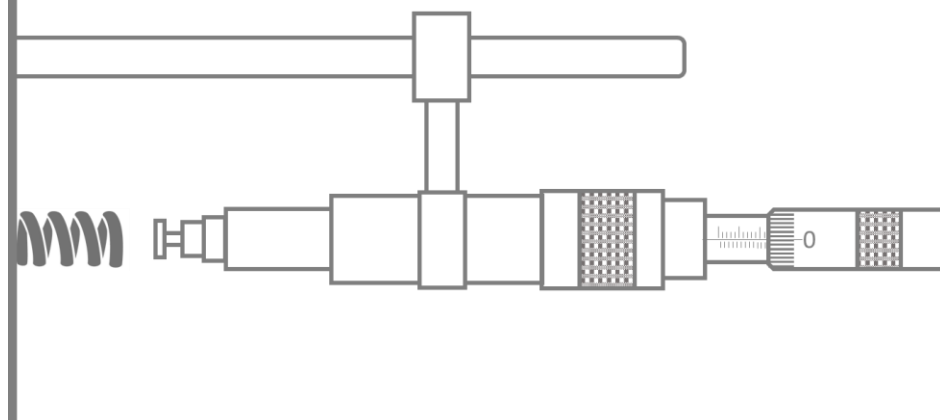

Figure 47 S.L.D Setup diagram
2. Fix the SLD and keep a suitable distance between the SLD and the formed uncut spring as shown in Figure 47.